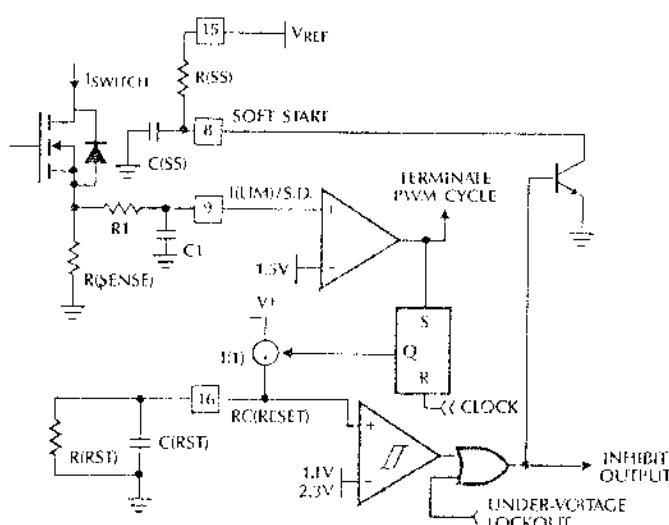

Figure 11. Over-Current, Soft Start, and Integrating Fault Detect Circuits
When the current sensed on pin 9 reaches the 1.5V limit, the PWM cycle is terminated. The flip flop (figure 11) turns on current source I(1) to charge C(RST) and remains on until CLOCK goes high. The magnitude of current source I(1) is $.25 \times I_{SET}$ where I_{SET} is the oscillator charging current. When C(RST) has charged to 2.3V, a soft start reset occurs. The number of times the PWM cycle is terminated due to over-current is "remembered" on C(RST). Over time, C(RST) is discharged by R(RST) providing a measure of "forgetting" when the over-current condition no longer occurs.